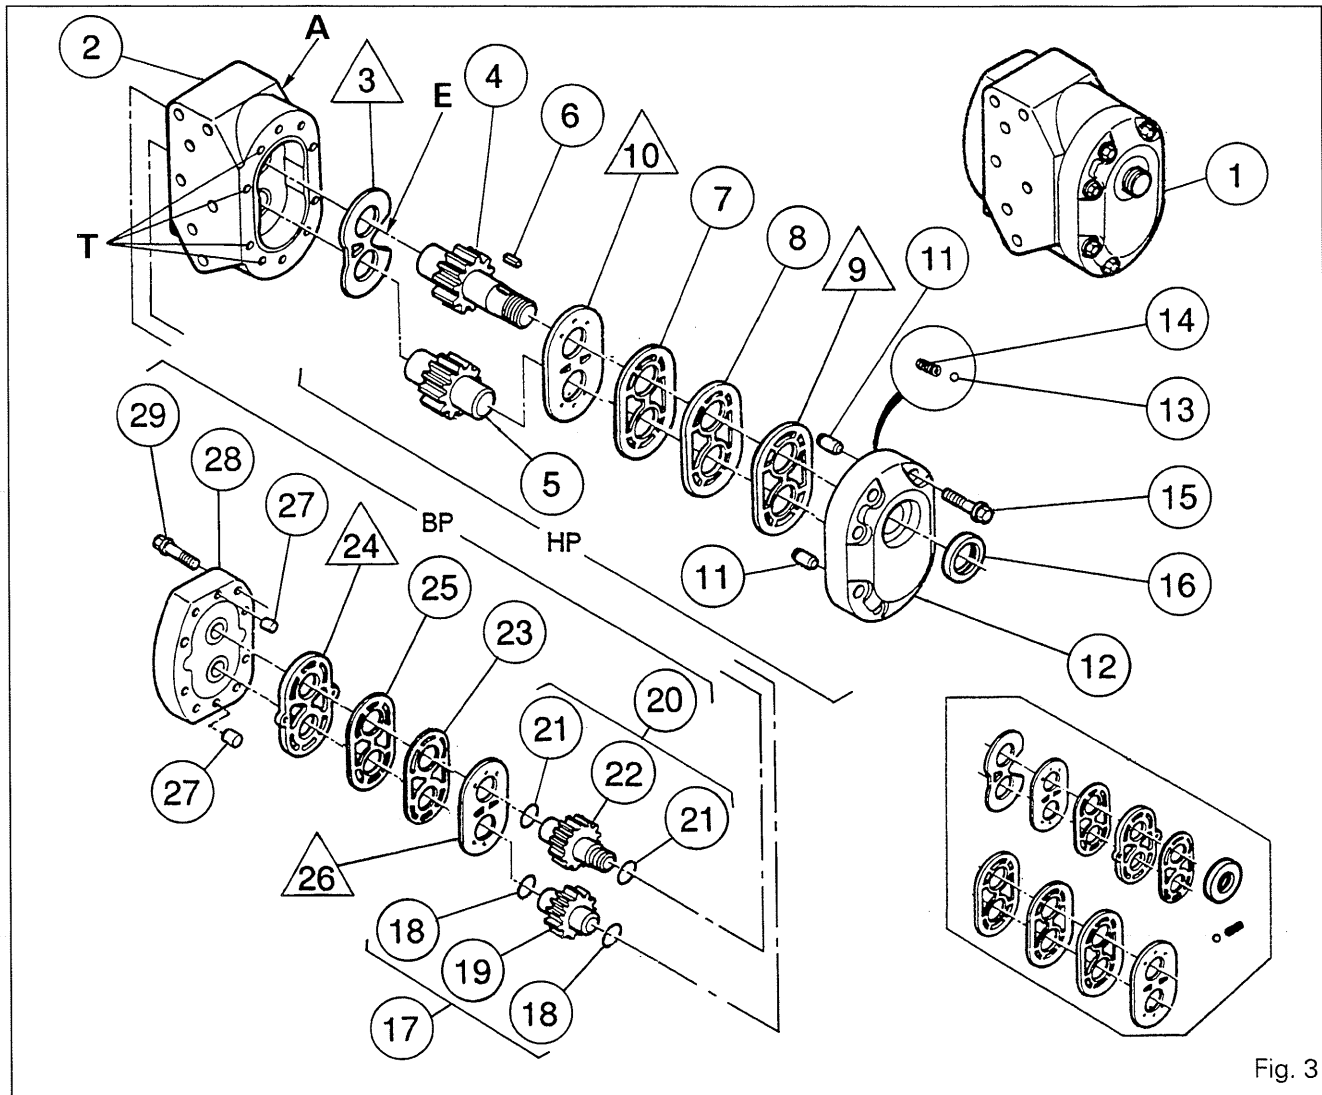

Fig. 3
#### Disassembly (Fig. 3)
#### Reassembly (Fig. 3)
84. Clean and check the parts, and replace any that are faulty. Check that the ports in the body (2) and the cover (12) are free of obstructions.
85. Refit the friction plate (3), with the recess E of the oilway directed towards the inlet port A (Fig. 3) and the wear face in contact with the gears.
86. Install gear (5) in the pump body.
87. Fit the bush (16) on the cover (12) using a suitable fixture. Immobilise the bush in the pump body by striking with a punch. Grease the bush. Fit the locating pins (11), if they were removed.
89. Refit the cover assembly (12) in accordance with the markings made during disassembly. Fit the bolts (15) without tightening them.
**Note: The long bolts are installed in the tapped holes T (Fig. 3).**